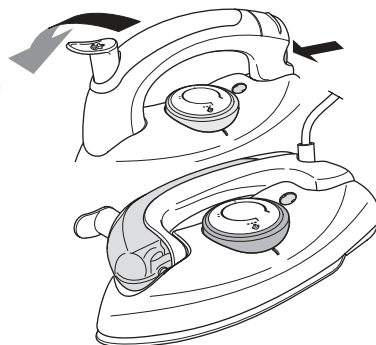

Figure 5
6. Fold the handle back by pressing the button that is located on the rear of the handle whilst pushing the handle downwards (see figure 5).